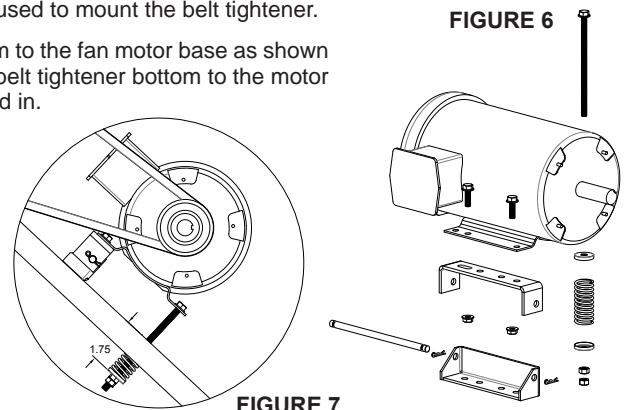

FIGURE 7
3. Mount the belt tightener top to the motor and the belt tightener bottom to the fan motor base as shown in Figure 6 and Figure 7 using the motor mounting bolts. Mount the belt tightener bottom to the motor base in the same slots in the motor base that the motor was mounted in.
5. Install the long bolt and spring as shown in Figure 6 and Figure 7 in the front hole of the motor. Tighten the spring to a length of 1.75 inches as shown in Figure 7.